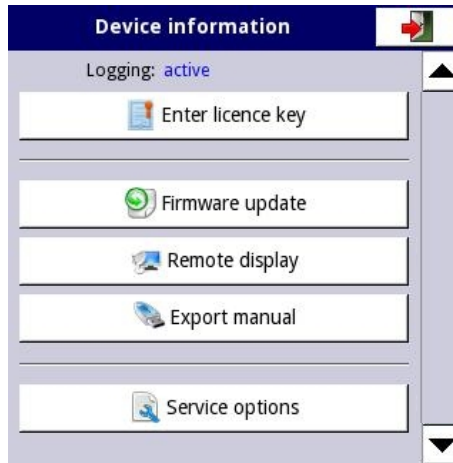

Fig. 7.27. Device information menu
Enter licence key button (see **Fig. 7.27**) allows the user to enter a licence key purchased from the manufacturer (or supplier), enabling additional software options which enhance the functionality of the device. After entering and accepting the licence key the device automatically starts up with new software options (if the licence key for data logging is entered the text under the **Licences** heading appears as: **Logging**: the period of validity – see **Fig. 7.27**).
Firmware update button (see **Fig. 7.27**) allows the user to update the device software. To perform the update:
- plug in the flash drive (some high capacity Pendrives are not supported, best choice is pendrive with 2GB capacity) - start the update process by pressing the **Firmware update** button (see **Fig. 7.27**).
The **Service options** button (see **Fig. 7.27**) allows the user to delete current configuration and restore default settings (excepting Access options – see **Chapter 7.17.**). It is done by passing the password, which is “**RENEW CONFIGURATION**”.